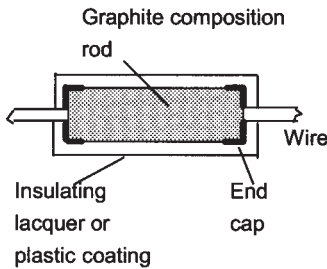

Figure 9.7 Graphite composition resistor
- 1 *Carbon composition resistors* are made by mixing finely ground carbon with a resin binder and insulating filler, compressing it into a cylindrical shape, and then firing it (Figure 9.7). Copper leads are provided at each end of the cylindrical shape and the resistor coated with an insulating plastic film. The resistance of the resistor depends on the ratio of carbon to insulating filler.